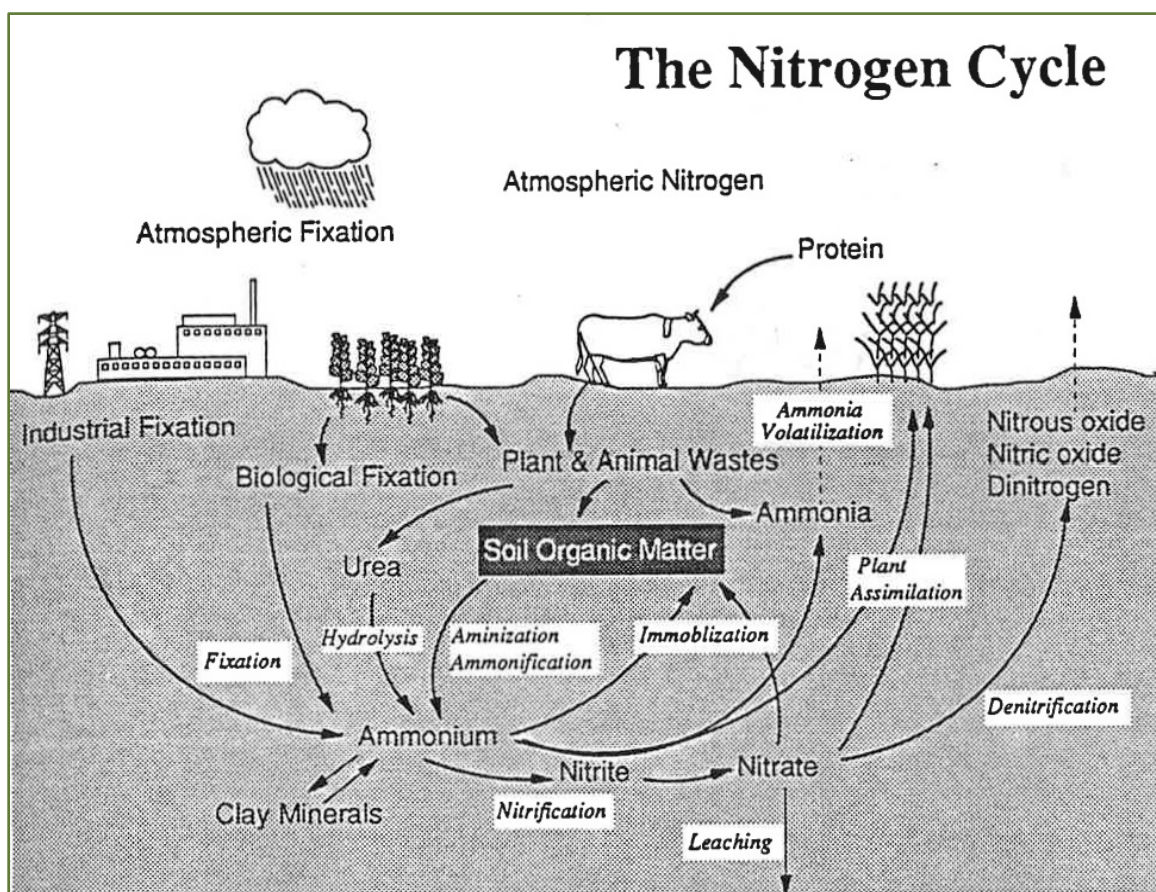

Figure 1.—Nitrogen cycle (“Soil as a Plant Sees It,” University of Nebraska, 1991).
Nitrogen (N) is the most abundant element in the atmosphere, and it generally is the most limiting nutrient for crops. Nitrogen cycles in soil through various processes and in various forms (fig. 1). Some of the processes convert N into forms that can be used by plants, and some of the processes, such as leaching and volatilization, can lead to N losses. Nitrogen is added to soil naturally through N fixation by soil bacteria and legumes and through rainfall. Additional N typically is applied to the soil by use of fertilizer, manure, or other organic material. Because N is so dynamic, it can easily be lost to the environment, making it difficult to determine adequate N levels throughout the growth cycle of crops. The soil nitrate N level is a reasonable indicator of N cycling in soils, and it can be used to help determine whether carryover nitrogen was used by the previous crop and whether additional nitrogen is needed. In addition, the nitrate N level is an excellent indicator of soil organic matter mineralization and excessive or inadequate application of N fertilizer for optimum crop or forage production. Excessive application of N fertilizer can result in leaching of nitrates below the root zone and into groundwater at a shallow depth or into drainage tiles.
The main inorganic forms of N in soils are ammonium (NH_4) and nitrate (NO_3), which are both useable by plants. Organic nitrogen may be present as a living organism, as humus, or as the intermediate products of organic matter decomposition. The processes included in the nitrogen cycle transform nitrogen from one form into another. Nitrogen processes in soils are carried out by microbes to harvest energy, for microbial growth, or for plant use. These processes make up the nitrogen cycle (fig. 1).